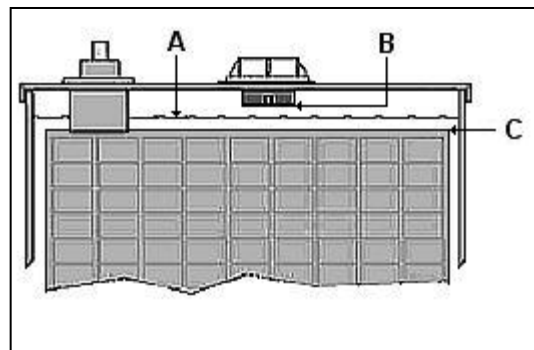

Figure 4-1
2. See Figure 4-1. Never allow the electrolyte level (A) to fall below the top of the plates (C). If the plates are exposed, add only enough to cover the plates before charging.